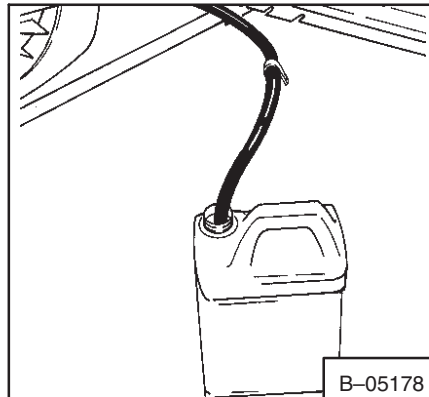

Fig. 1-34 Removing Fluid
- (c) Put the hose in a container and drain the hydraulic/hydrostatic reservoir (Fig. 1-34).